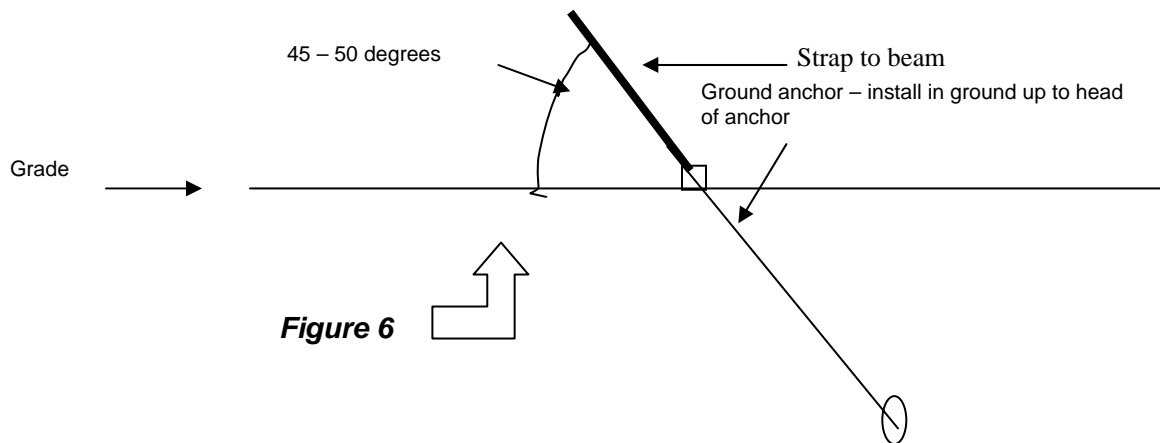

Figure 6
- a. You can mortar all of the head and bed joints to each other and to the concrete ribbons or slab. See Figure 6 below.
1. If you choose a ground (auger-type) anchor, it must be installed according to the manufacturer's requirements and its listing. See Figure 6 below.